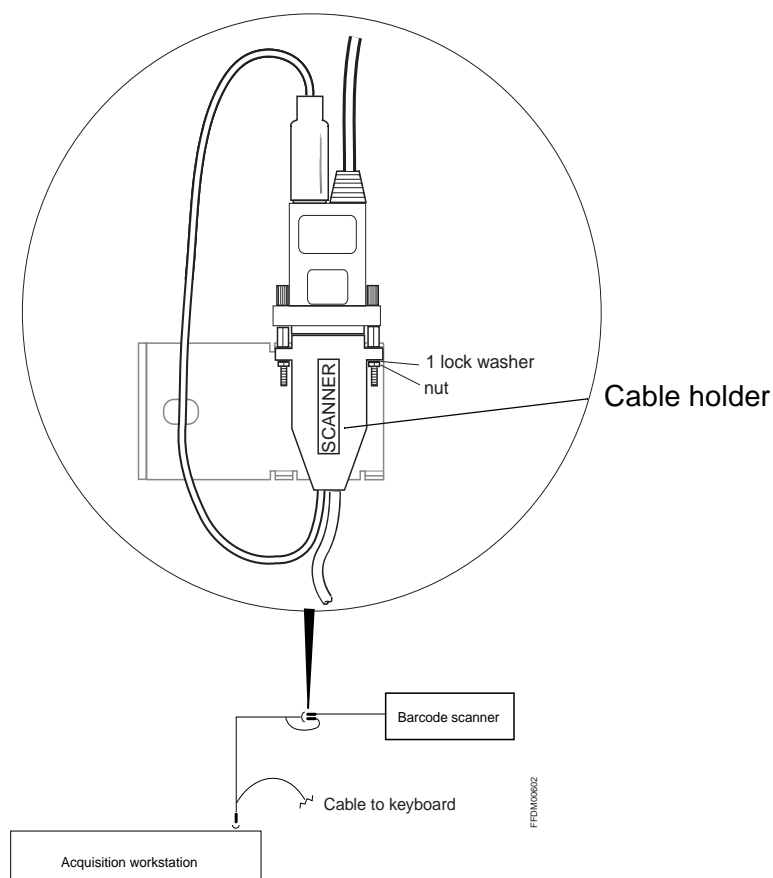

Fig. 2
- Mount connector DB9F and connector marked “SCANNER” to one of the cable holders according to Fig. 2.